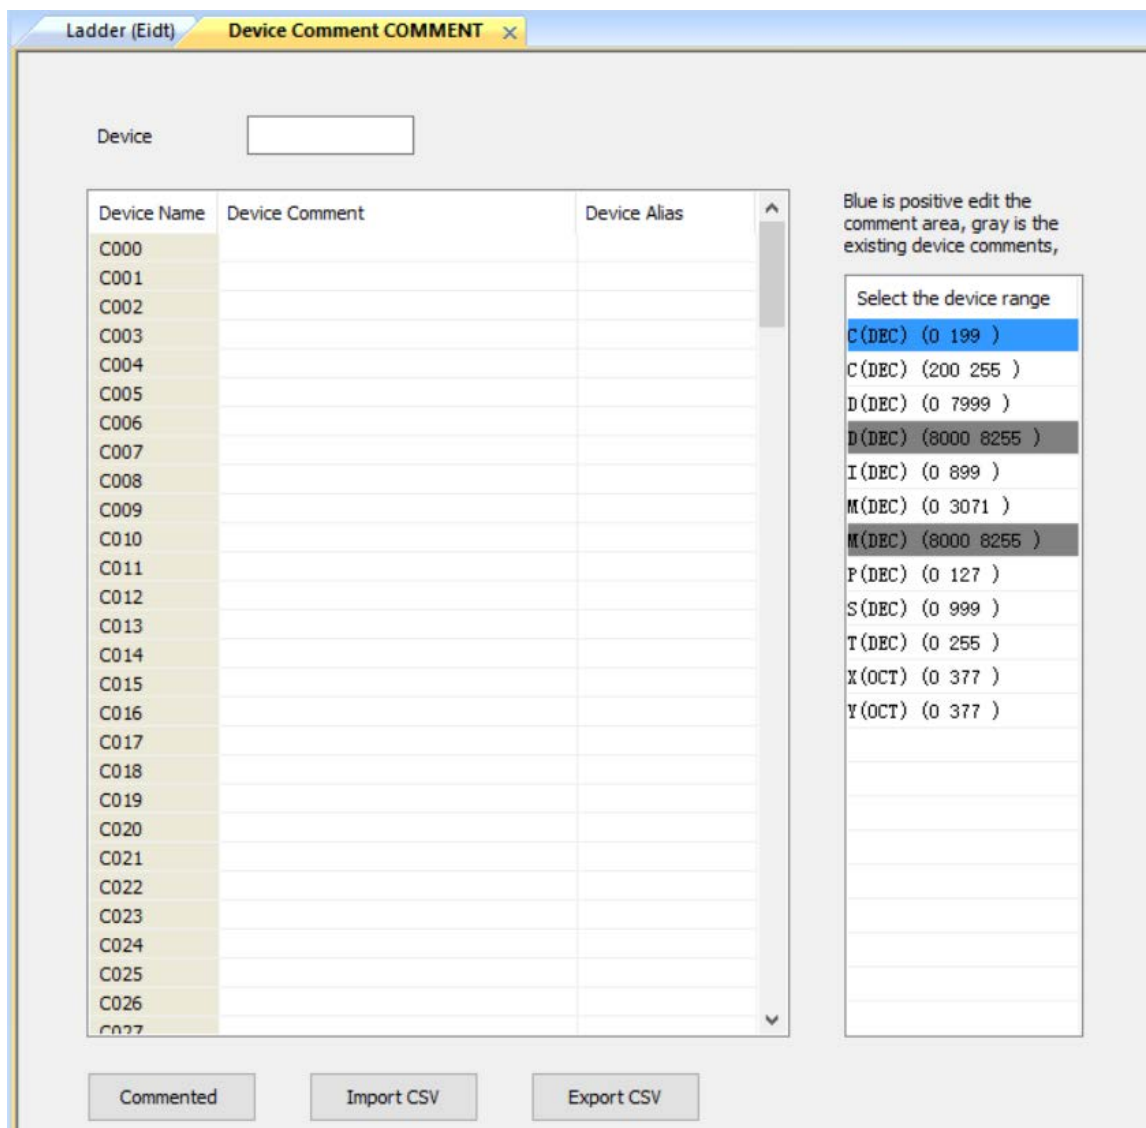

Figure 3-11
- 1) Double click [COMMENT], the setting windows will pop up automatically, as Figure 3-11 shows;